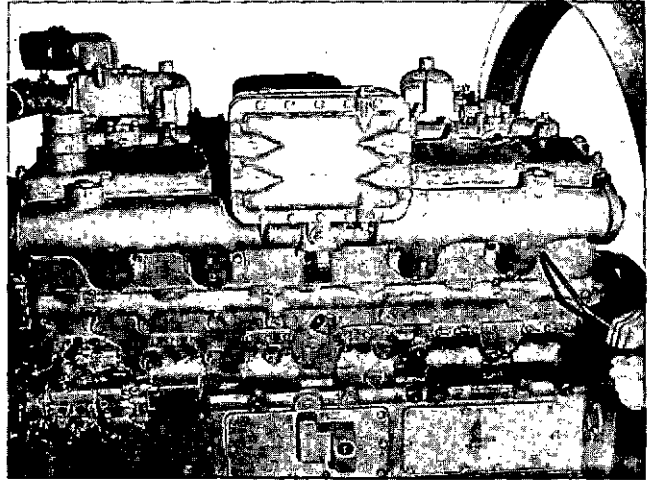

Fig. 0-17, V40050. Intercooler and air intake manifold
1. Remove capscrews, lockwashers and flatwashers, Fig. 0-17, securing manifolds to cylinder heads.